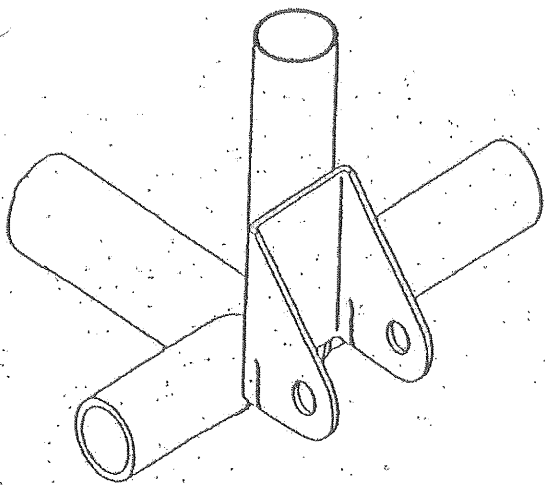

Figure 1
- (1) This inspection is to be performed at the same time as the routine check of wing spar attachments as specified in the Owner's and Maintenance Manual for the 50-hour inspection.
- (2) For S-2B SN 5336 and earlier, and all other models, remove the paint and primer in the area around the wing rear lower fuselage attach fittings with a chemical stripper then check for cracks using a dye penetrant method. Refer to Figure 1 for typical location of cracks.
- (3) If any cracks are found repair the fitting as per C below.
- (4) If no cracks are found, prime and paint the stripped area.